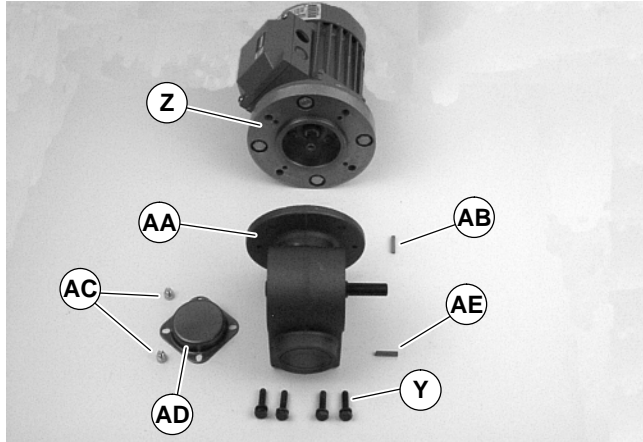

Figure 15
5. Remove four screws (Y of Figure 15). Detach motor (Z) from gear reducer (AA). Retain motor output shaft key (AB).
10. With key (AB of Figure 15) in keyway, slide motor (Z) and gear reducer (AA) together. Install screws (Y) and tighten.